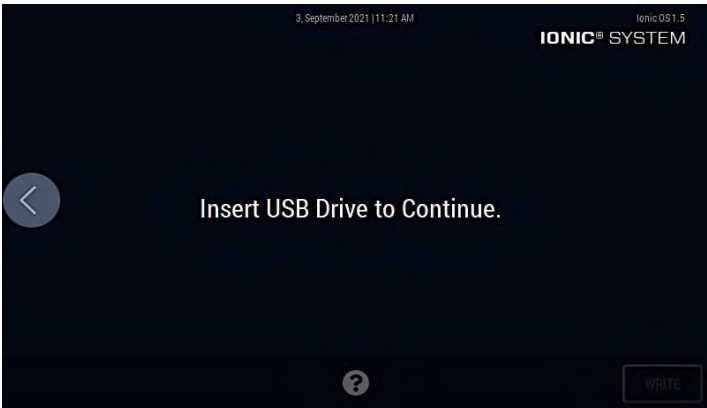

Figure 11. Save System Logs screen - Step 1
- Press the **Save System Logs** button to save system log files to a USB device, as shown in **Figure 11**.